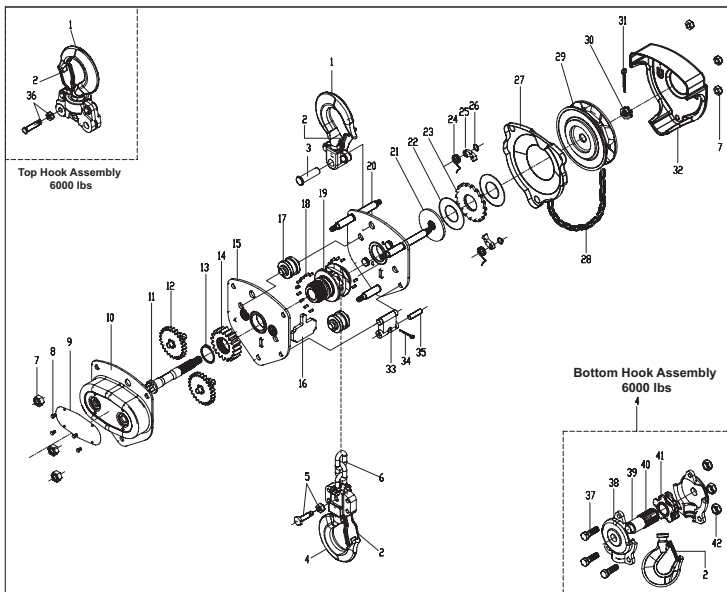

fig.8
10. Please refer to fig. 8, product exploded view for parts details.
4. During the assembly of the brake side, respect the brake part order as shown in the exploded view (See fig.8). Screw hand chain wheel down tight. Tighten the nut finger on the input shaft, then back it off approximately one-quarter turn and install the cotter pin.